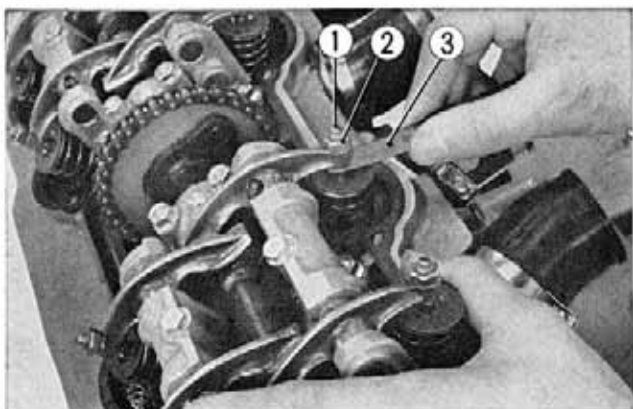

Fig. 3-45 ① Valve tappet adjusting screw
8. Adjust the valve tappet clearance. (Fig. 3-45) Refer to page 42~43.